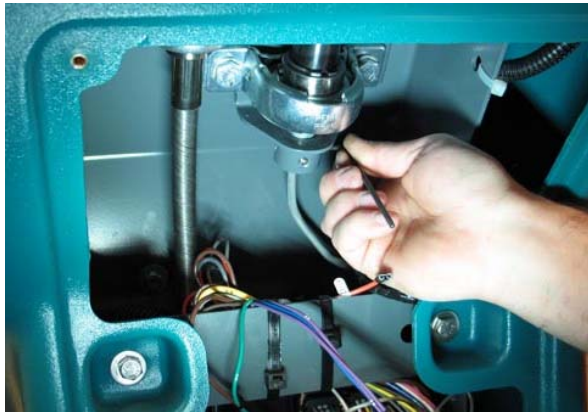
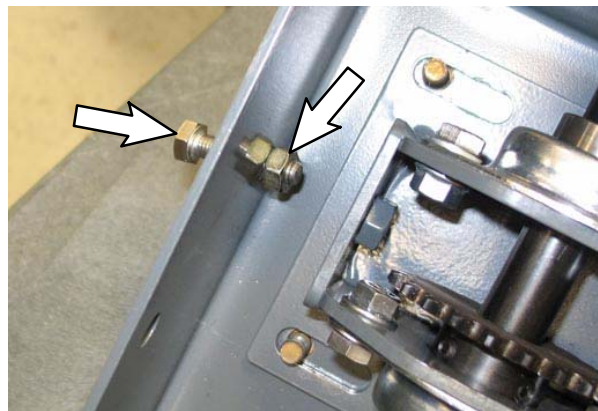
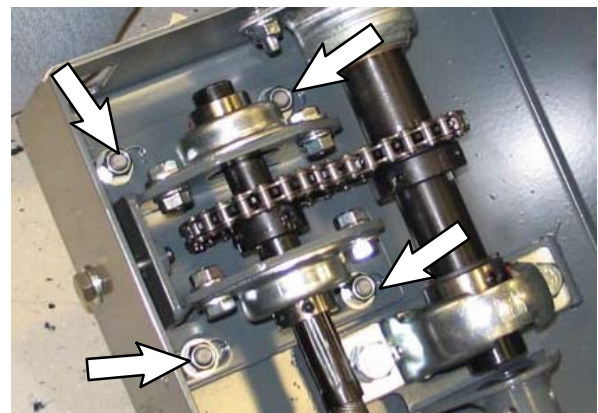
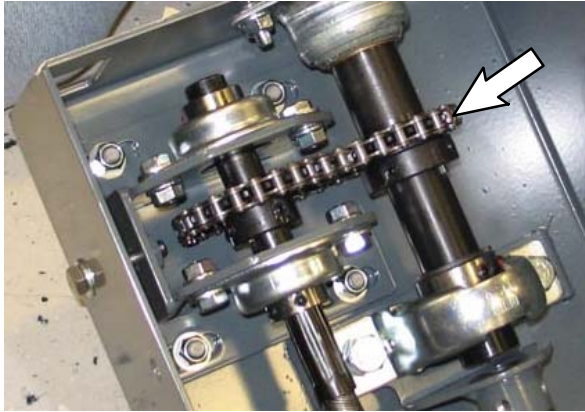

FIG. 3
FIG. 7
FIG. 8
FIG. 9
1. Loosen the socket set screws from the bracket inside the steering weldment. (Fig. 3)
3. Pull the steering touch panel assembly from the steering assembly. Discard the steering touch panel assembly. (Fig. 4 / Fig. 3)
4. Remove the 1- 11/16 in jam nut from the steering assembly. Set the jam nut aside. (Fig. 5 / Fig. 3)
5. Remove the steering wheel. Set the steering wheel aside. (Fig. 6 / Fig. 3)
6. **Newer Design Machines:** Remove the M8 hex screw, flat washer, and M8 hex nut used applying tension to the steering chain from the steering channel. Set the removed hardware aside. (Fig. 7 / Fig. 3)
7. Loosen the M8 hex nuts securing the support plate weldment to the steering channel. (Fig. 8 / Fig. 3)
8. Remove the chain from the steering assembly. (Fig. 9 / Fig. 3)